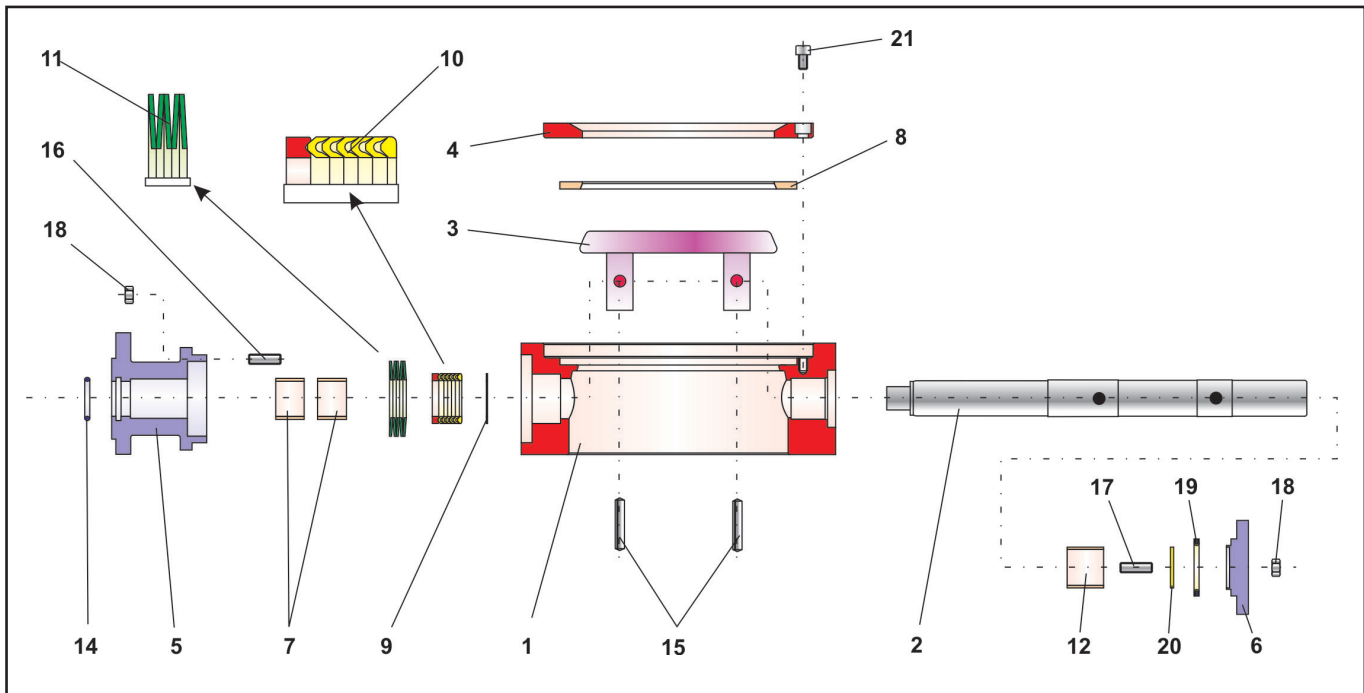

Fig 3 - Explosion drawing of butterfly valve, Series 14a
**Note:** The position and arrangement of the individual parts shown in the explosion drawing (Fig 3) must be observed when assembling the valve.
The PTFE - V-ring packing ( 10 ) is placed over the shaft, and with a mounting sleeve pressed into the bore of the body. Refer to the explosion drawing ( Fig 3 ) for positioning the V-ring packing.
Push the spring washer set ( 11 ) over the shaft and place in respective position on the packing. Refer also the explosion drawing ( Fig 3 ) for positioning the spring washers.